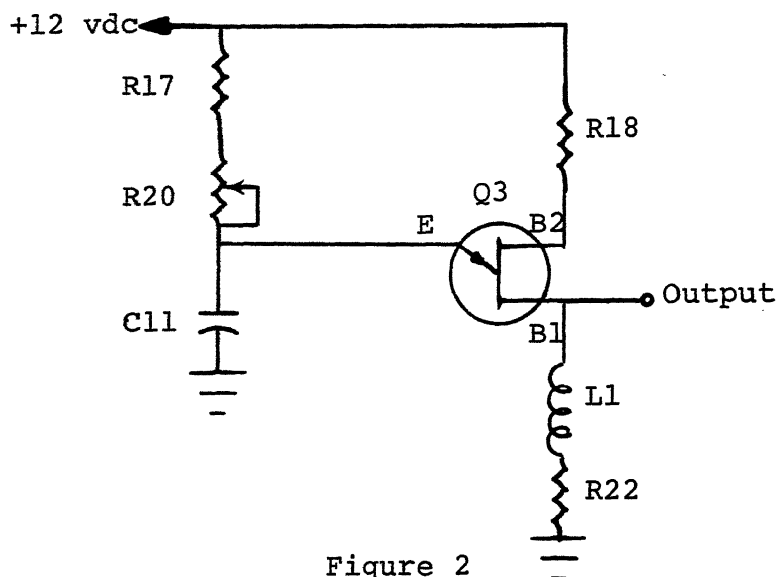

Figure 2
Figure 2 illustrates the unijunction trigger oscillator as it is configured on the Resolver Driver Card (A3A1) of the radar's synchronizer. When power is applied to the circuit, C11 begins charging towards +12vdc through R17 and R20. Q3 requires a bias voltage of +8vdc on the emitter to conduct. When the charge on C11 reaches +8vdc, Q3 becomes forward biased and conducts, providing a discharge path for C11. The discharge path is through ground, R22, L1, and the B1-E junction of
In the unijunction trigger oscillator shown in figure 2, the components that determine the _____ of the output pulse are C11, L1, and R22.
4. Refer to figure 2. The components that determine the shape of the output pulse are